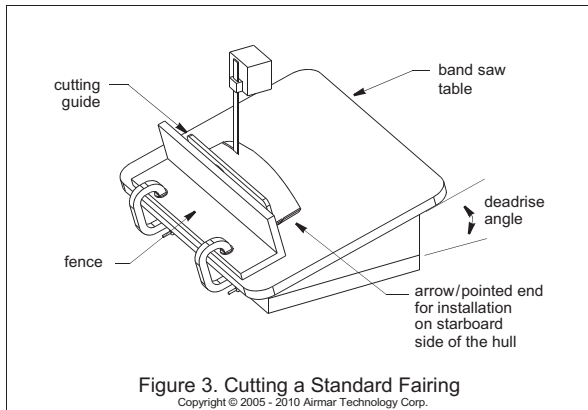

Figure 3. Cutting a Standard Fairing
2. Tilt the band saw table to the measured angle and secure the cutting fence (see Figure 3).
4. Adjust the cutting fence, so the fairing will be cut in about two equal parts (see Figure 3). *The section that will become the fairing must be between 6–12mm (1/4–1/2") at its thinnest dimension (see Figure 2).*